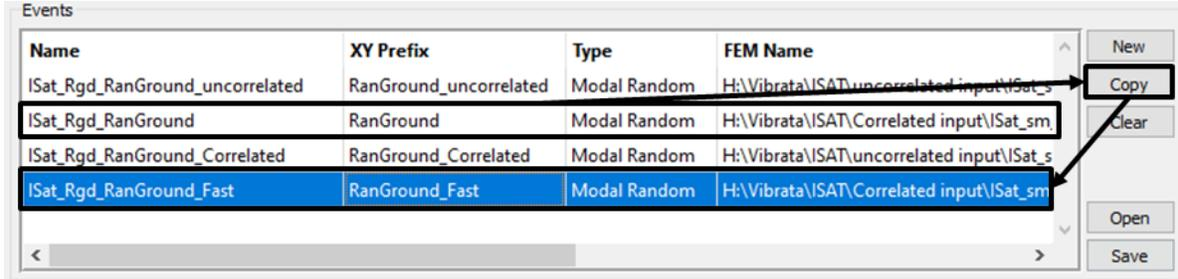

Figure 4-66. Copy the original rigid-base event; the new one will use FastRMS contour calculations.
1. In the Event Manager, copy the original rigid-base event from section 4.3.2 using the **Copy** button and then assign a new name to the new event (Figure 4-66).